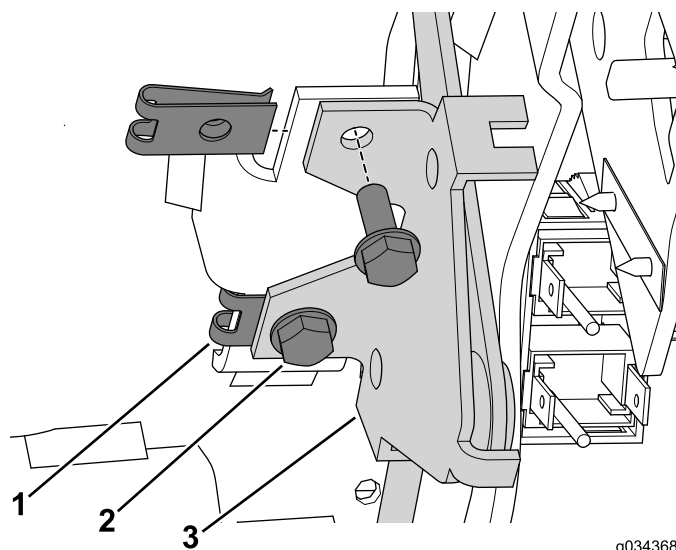

Figure 19
3. Install the speed nut clips on to the mount on the console assembly (Figure 19).
4. Use the 2 bolts (#10 x 1/2 inch) to secure the choke-lever assembly to the console (Figure 19).